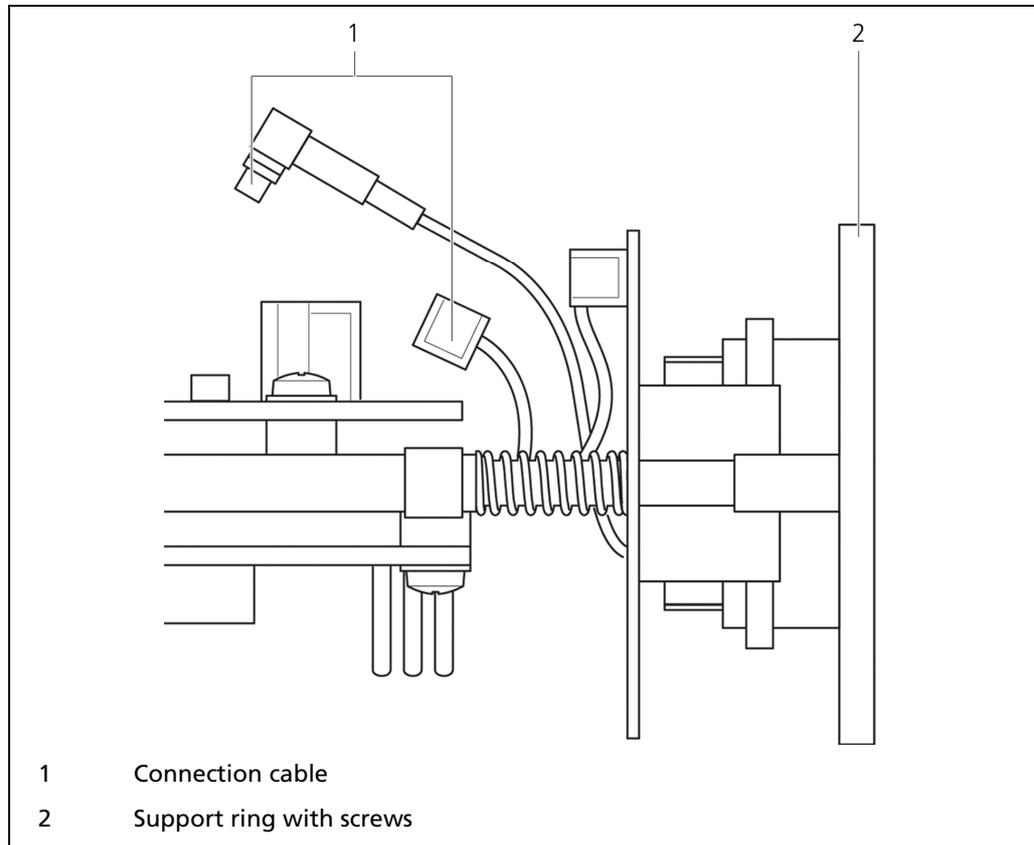

Fig. 40 GAMMAcast detector LB 6739 Csl 40/50, PMT removed
12. If a modification of the spacer rings should be required, disconnect both connection cables (Fig. 40, pos. 1) from the electronics unit and remove the screws located at the support ring (Fig. 40, pos. 2).
14. Tighten the support ring (Fig. 40, pos. 2) again
15. Plug the connection cable (Fig. 40, pos. 1) back into the electronics unit.